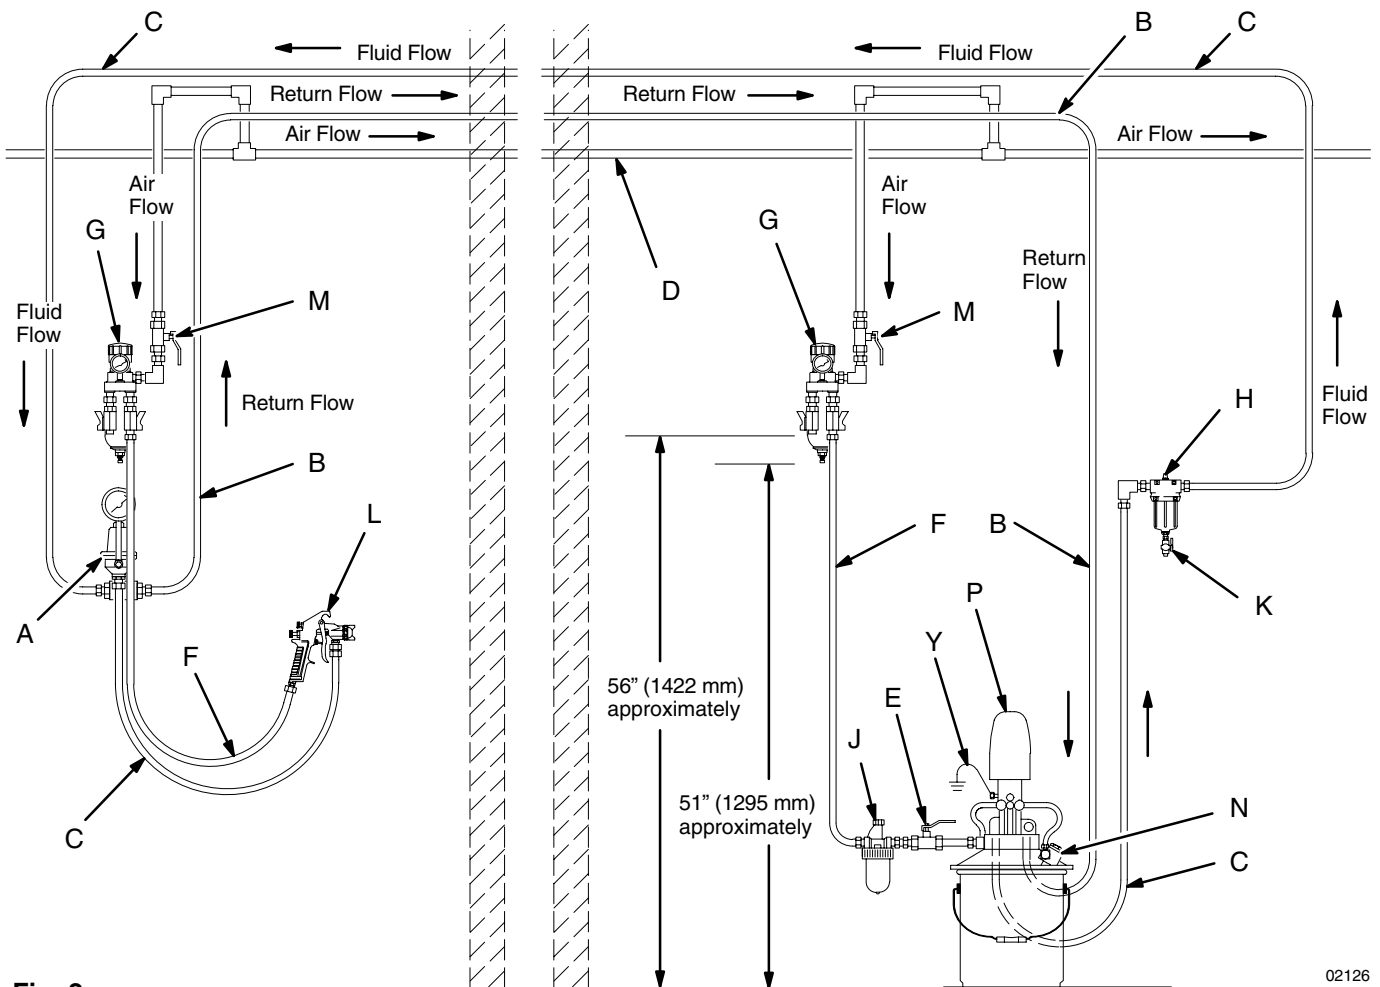
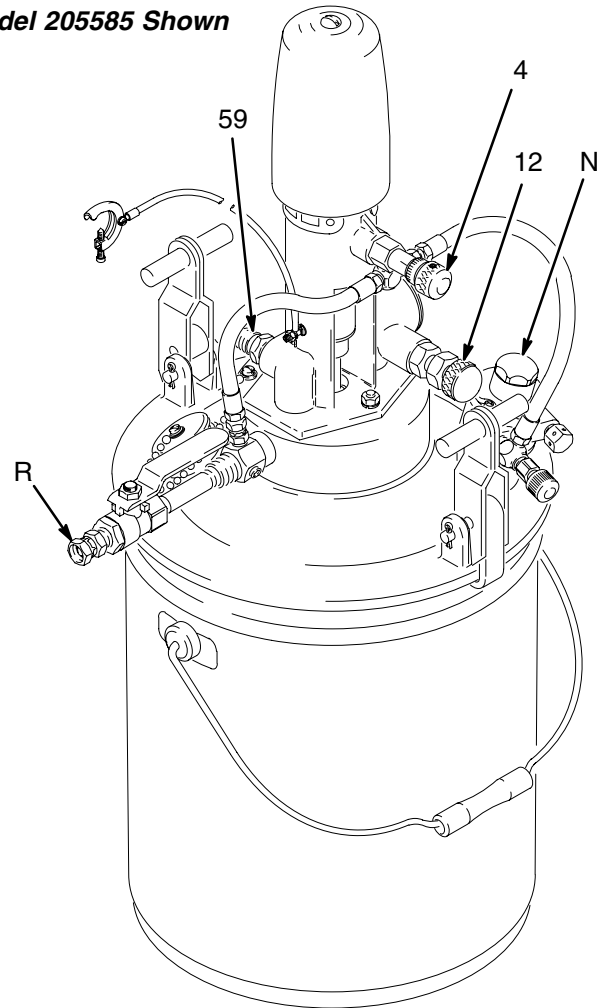

Fig. 2
Fig. 3
Refer to Fig. 2. Bring a compressed air supply line (D) from the air compressor to the pump location. Be sure all air hoses (F) are properly sized and pressure-rated for your system. Use only electrically conductive hoses.
Fig. 2 is only a guide for selecting and installing system components and accessories. Contact your Graco distributor for assistance in designing a system to suit your particular needs.
Refer to Fig. 3.
1. Install a fluid pressure regulator (A) at each spray booth. See Fig. 2.
2. Install an air filter/regulator (G) and an air bleed valve (M) at each spray booth.
3. Connect an air supply hose (F) between the air filter/regulator (G) and the air inlet of the gun (L).
4. Connect a fluid return line (B) between the fluid regulator (A) and the return port of the pump.
5. Connect a fluid supply line (C) between the fluid outlet of the pump and the fluid regulator (A).
6. Connect a fluid hose (C) between the fluid regulator and the fluid inlet of the spray gun.
7. Connect an air supply hose to the air inlet of the pump (R). See Fig. 3.
1. Install a fluid pressure regulator (A) at the spray booth. See Fig. 2.
2. Install an air filter/regulator (G) and an air bleed valve (M) at the spray booth.
4. See Fig. 3. Connect a fluid supply line (C) between the pump fluid outlet nipple (59) and the fluid regulator (A).
5. Connect a fluid hose (C) between the fluid regulator and the fluid inlet of the spray gun.
6. Connect an air supply hose to the air inlet of the pump (R).
1. Remove the nipple (59) from the fluid outlet of the pump. See Fig. 3.
3. Install a fluid pressure regulator (A) at each spray booth. See Fig. 2.
4. Connect two fluid hoses to the manifold outlets (V). Connect the other end of the hoses to the fluid regulators (A).
5. Connect a fluid hose (C) between the fluid regulator (A) and the fluid inlet of the spray gun (L).
6. Install an air filter/regulator (G) and an air bleed valve (M) at each spray booth.
7. Connect an air supply hose (F) between the air filter/regulator (G) and the air inlet of the gun (L).
8. Connect an air supply hose to the air inlet of the pump (R).
1. See Figs. 2 and 5. Remove the spray nozzle from the gun. See the gun instruction manual.
3. Close the pump air filter/regulator (G).
4. Close the fluid drain valve (K).
7. Open the bleed-type air valves (E, M). Open the air filter/regulator (G).
9. Slowly open the pump air valve (4) until the pump starts. Use the air valve to control pump speed and fluid pressure. Always use the lowest pressure necessary to get the desired results. Higher pressures cause premature nozzle and pump wear.